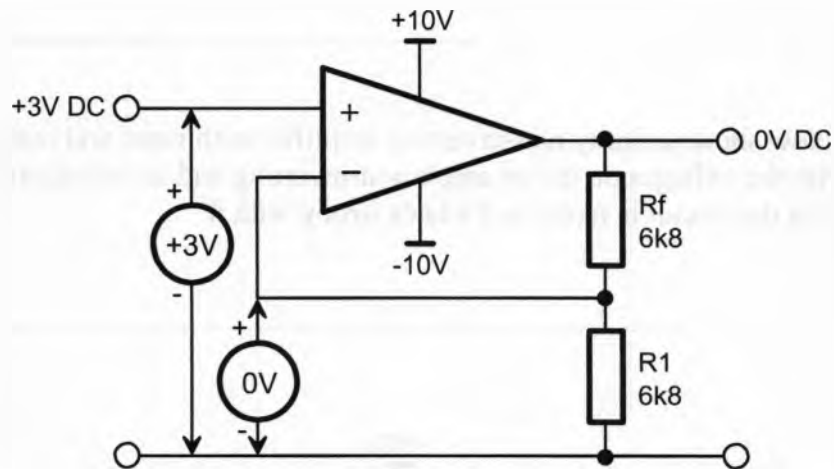

Figure 5
22. Figure 5 below shows a faulty non-inverting amplifier with input and output voltages shown together with the voltages on the op amp's non-inverting and inverting pins. State what component in the circuit is faulty.